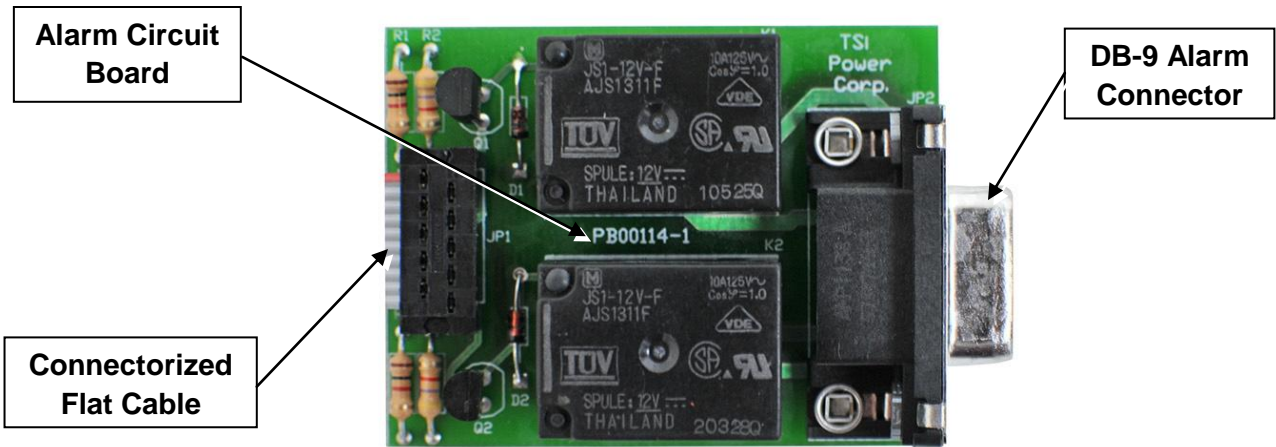

Figure 10: Alarm Circuit Board
2.5 ALARM CIRCUIT BOARD – Relay contact alarm signals are available through the DB-9 connector that has been soldered to the alarm circuit board. A connectorized flat cable is used to interface with the main circuit board. See Figure 10.